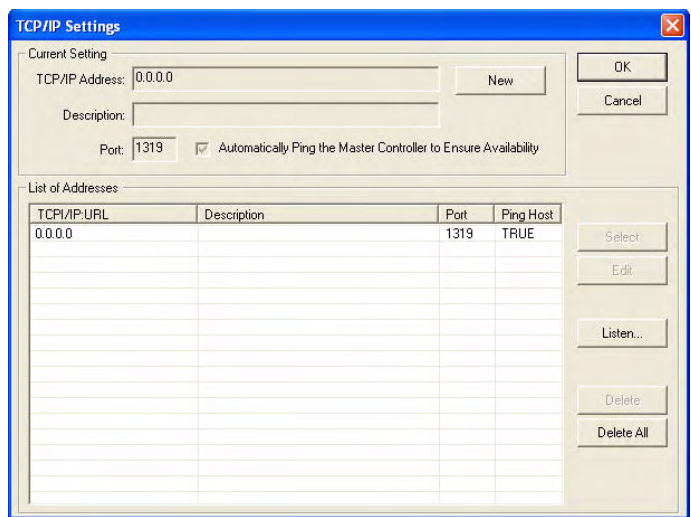

FIG. 23 TCP/IP Settings dialog box
- Click the **Edit Settings** button (on the *Communications Settings dialog*) to open the *TCP/IP Settings dialog* (FIG. 23). This dialog contains a series of previously entered IP Address/URLs and their associated names, all of which are stored within NetLinx Studio and are user-editable.